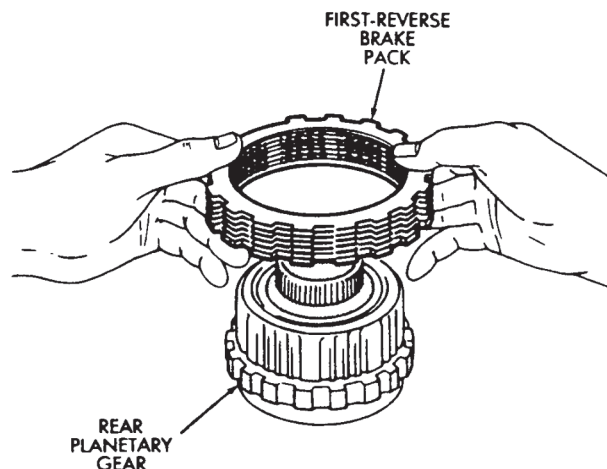

Fig. 4 Removing/Installing First-Reverse Brake Pack
(7) Verify one-way clutch operation. Hold gear and turn inner race in both directions. Race should turn freely counterclockwise, but lock when turned clockwise.
(8) Install planetary gear in ring gear.
(9) Assemble clutch discs and clutch plates (Fig. 4). Sequence is disc first, then a plate. **Use seven discs and plates in a 6-cyl. transmission and six discs and plates in a 4-cyl. transmission.**
(10) Install brake pack on planetary gear (Fig. 4).